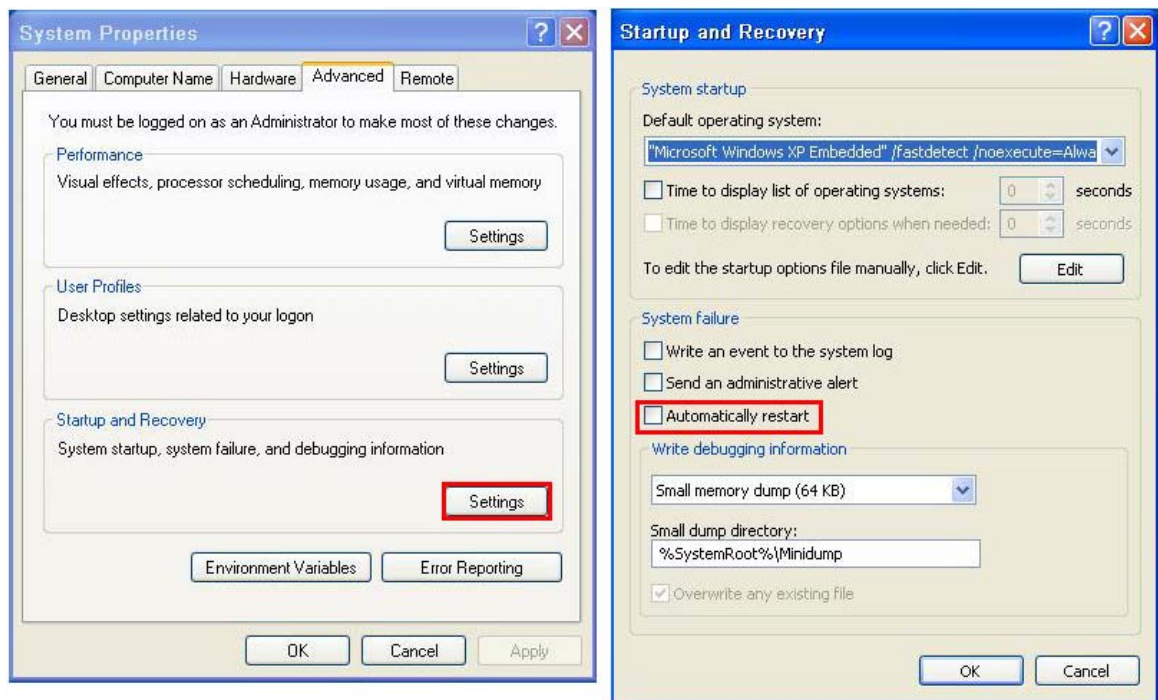

Figure C-23: Disable Automatically Restart
- Step 3:** **Disable the automatically restart function before creating the factory default image.** Go to: My Computer → Properties → Advanced. Click the Settings button of Startup and Recovery. Deselect “Automatically restart”. Click OK to save the settings and exit. (See **Figure C-23**)